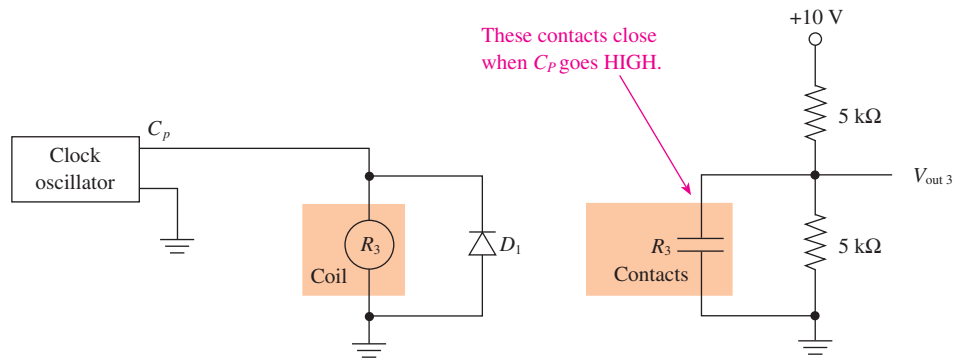

Figure 16 Relay used in a digital circuit.
Now, let's go a step further and replace the 5-V battery and switch with a clock oscillator and use a timing diagram to analyze the results. In Figure 16, the relay is triggered by the clock waveform, C_p . The diode D_1 is placed across the relay coil to protect it from arcing each time the coil is deenergized. Timing diagrams are very useful for comparing one waveform to another because the waveform changes states (1 or 0) relative to time. The timing diagram in Figure 17 shows that when the clock goes HIGH (1), the relay is energized, causing V_{out3} to go LOW (0). When C_p goes LOW (0), the relay is deenergized, causing V_{out3} to go to +5 V (using the voltage divider equation, $V_{out} = [10 \text{ V} \times 5 \text{ k}\Omega] / [5 \text{ k}\Omega + 5 \text{ k}\Omega] = 5 \text{ V}$).